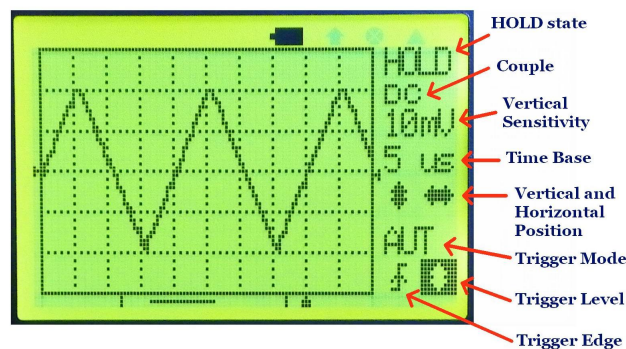

Fig 2
- 6) **Parameter setting indicators** – their functions are described below in Fig. 2.